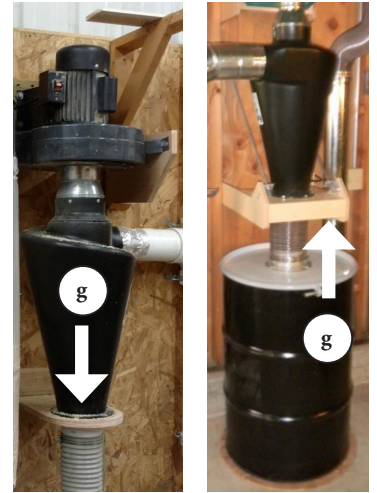

FIG. 6
- g. A wall mount or stand to support the cyclone and to easily remove the lid when emptying your drum. [FIG. 6].